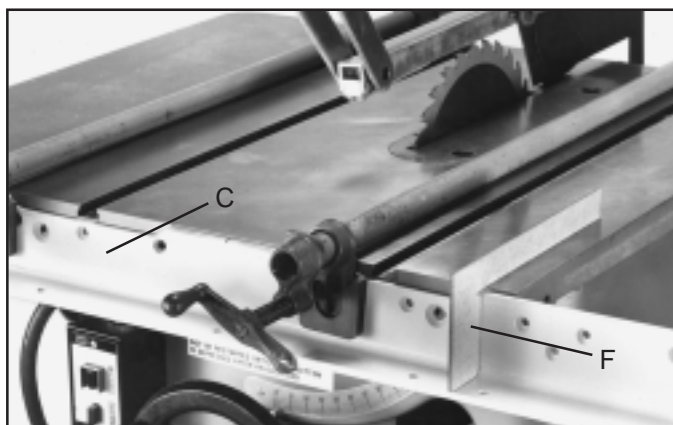

Fig. 16
2. Using template (F) Fig. 16, check and adjust the front rail at both sides of saw table, to make sure the horizontal portion of front rail (C) is parallel with the table top and then tighten bar clamps. **The rail should be down from the top of the table 2-27/32".**